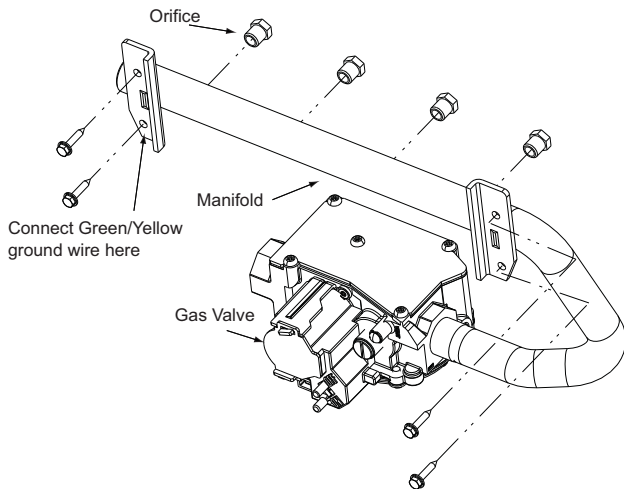

Fig. 2 – Manifold Assembly
4. Note the location of the green/yellow wire ground wire for re-assembly later. See Fig. 2.